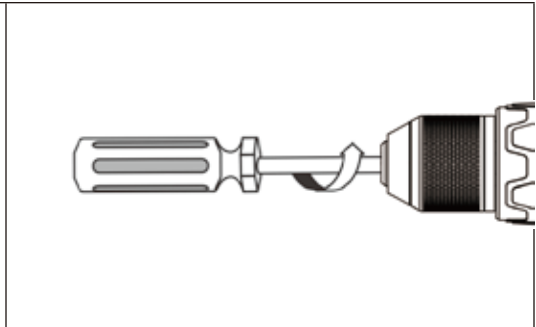
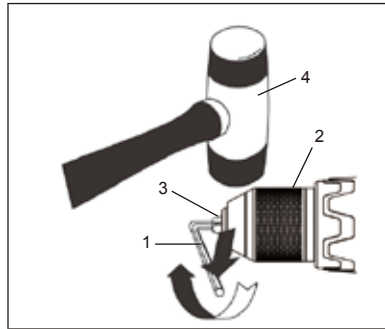

FIG. 14
FIG. 16
6. Remove the chuck screw using a #2  screwdriver (Fig. 14).
2. Insert a 5/16" (8 mm) or larger hex key (1) into the chuck (2) and tighten the chuck jaws securely (Fig. 16). Make sure each of the chuck jaws (3) is seated on the flat surfaces of the hex key.
3. Tap the hex key sharply with a mallet (4) in a **CLOCKWISE** direction. This action will loosen the screw in the chuck for easy removal.
5. Tighten the chuck screw using a #2  screwdriver (Fig 14).